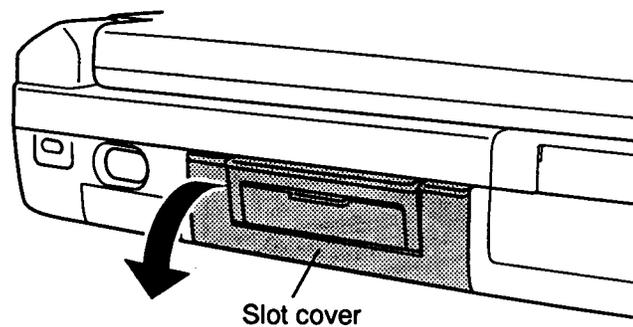

Figure 4-7 Opening the PCMCIA slot's cover
To remove an optional PCMCIA card, follow the steps below and refer to Figures 4-7 and 4-8.
3. Pull open the **slot cover** (Figure 4-7).